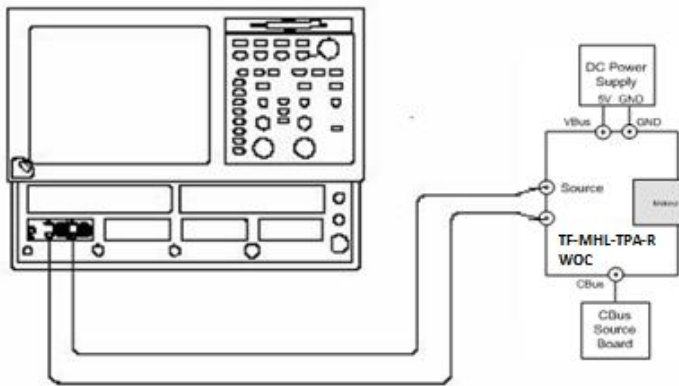

Figure 2: Initial equipment connections for the measurement using a TF-MHL-TPA-R-WOC
1. Use DC block and 50Ohm SMA cable to connect the CH1 connector on the sampling module and the MHL + connector on the test fixture (see Figure 2).
2. Use DC block and 50 Ohm SMA cable to connect the CH2 connector on the sampling module and the MHL- connector on the test fixture (see Figure 2).